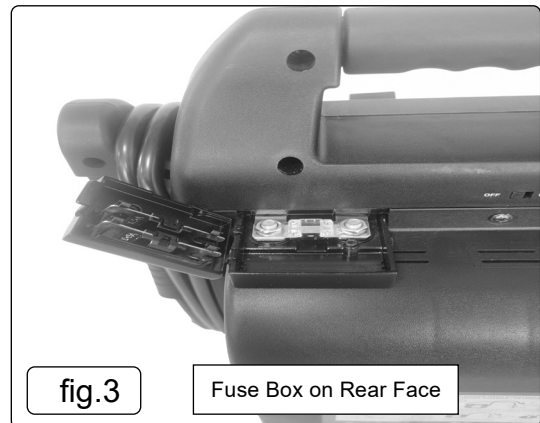

fig.3
- 5.1.1. Short circuit protection:** In the event of accidentally touching the Positive and Negative clamps together, the fusible link (fig 3) will be blown which will shut off output power thereby preventing a dangerous overload situation.
- 5.1.2. Reverse Polarity Protection:** If the unit is accidentally connected in the reverse polarity when jump starting, the fusible link (fig 3) will be blown. Power will not output when the fusible link is blown, simply replace the broken fusible link with one of the spares and correct the polarity of the connection before attempting to use again.
- 5.1.3. 24V battery connection protection:** In the event of accidental connection to a 24V battery system, the the fusible link will be blown. Power will not output when the fusible link is blown, simply replace the broken fusible link (fig. 3) with one of the spares before attempting to use again. Even though this protection will protect the Roadstart from catastrophic failure, extreme care should be taken by the user to correctly identify the type of battery to be jump started and the operating voltage of the system.
- 5.1.4. Over load and over temperature protection:** When using the clamps to output power, if the load too big or the use time is too long, the the fusible link (fig.3) will be blown. Power will not output when the fusible link is blown, simply turn unit off and remove the power supply before replacing the broken fusible link (fig.3) with one of the spares before attempting to use again.